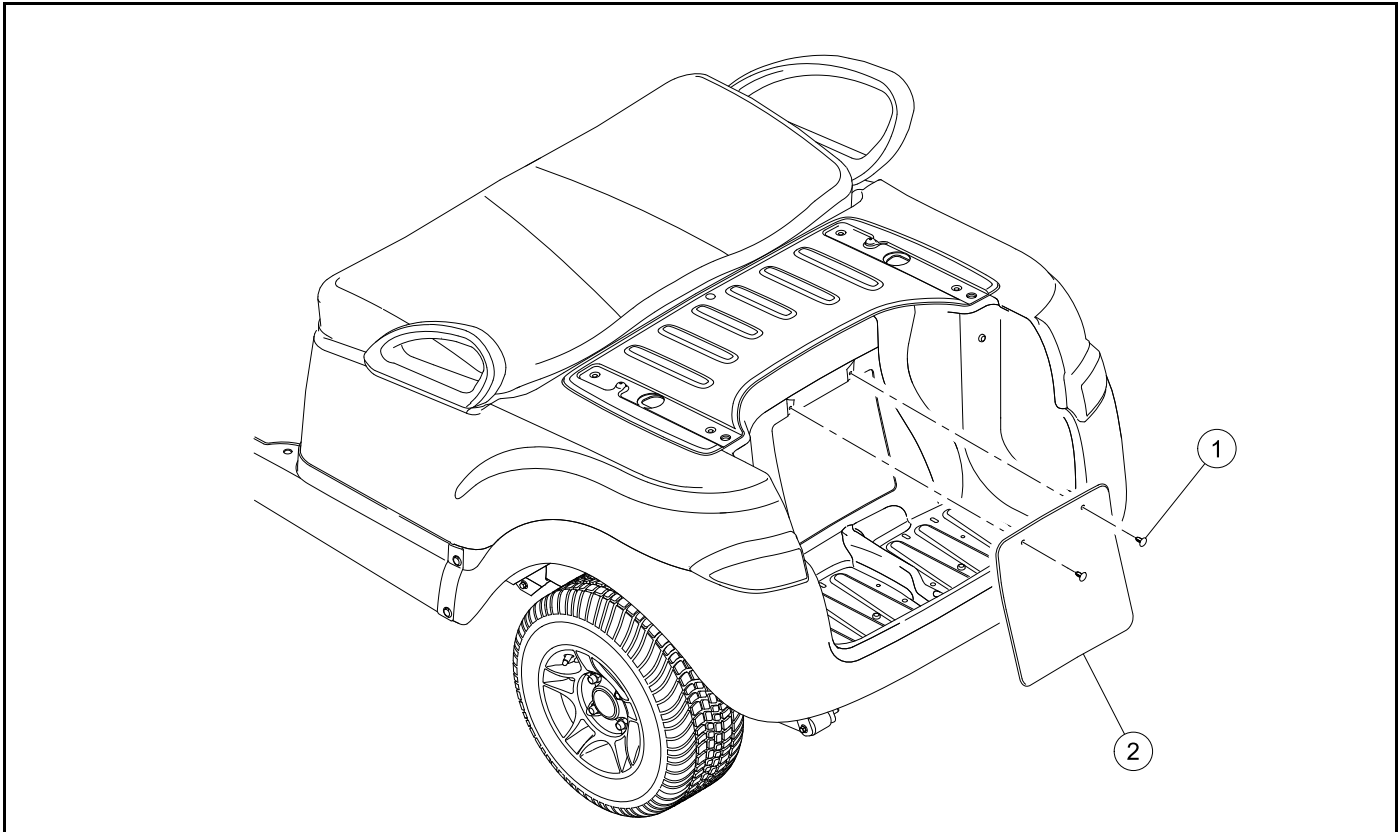

Figure 4-13 Access Panel
1. Remove the two push rivets (1) (Figure 4-13).
2. Remove the access panel (2).
1. Install the access panel (2) onto the rear underbody (Figure 4-13).
2. Install the two push rivets (1).